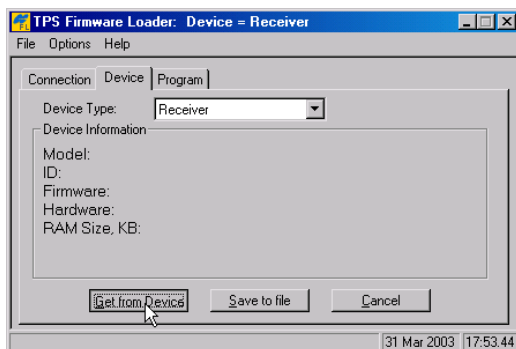

Figure 5-19. Set Device Type
1. In FLoader, click the **Device** tab and set the *Device Type* as “Receiver”. Then click **Get from Device** for device information (Figure 5-19).